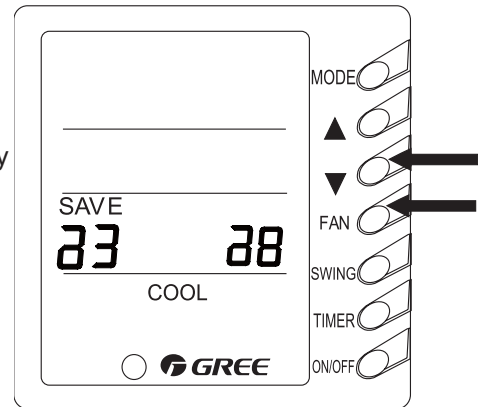

Fig. 8
7) Energy saving setting (Fig. 8)
◆ The word SAVE will be displayed in LCD at next startup of the unit if above setup has been finished. No matter by pressing button of the display or remote controller, the setting temp. can never be set to be higher than the temp.. Range set under energy saving mode before. For example, in fig.8, the lower limit cooling temp. under energy saving mode is 23°C and upper limit temp is 28°C, so the user only set cooling temperature in the range of 23~28°C.